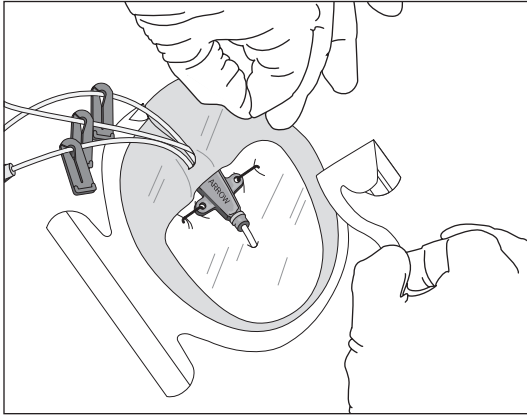

Figure 5
- Slowly remove frame while smoothing down dressing edges. Smooth dressing from center toward edges, use firm pressure to enhance adhesion (refer to Figure 5).